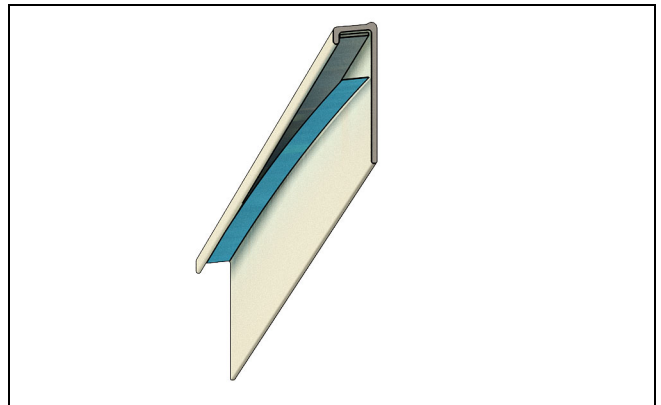
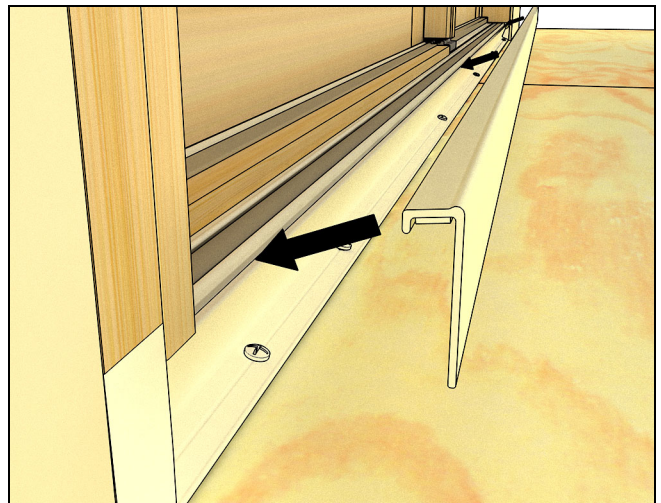

Figure 27
Figure 28
2. Locate and remove tape backer on the interior sill liner. Press down and fully seat the sill liner. See Figure 27 and Figure 28.